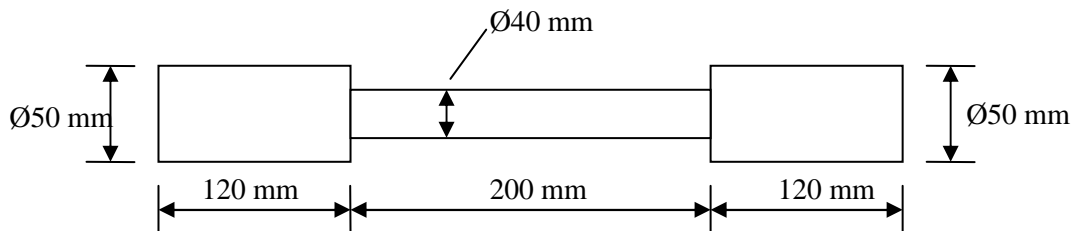

Fig Q6
6. The round steel bar shown in Fig Q6 has a total elongation of 0.4 mm when subjected to an axial load.